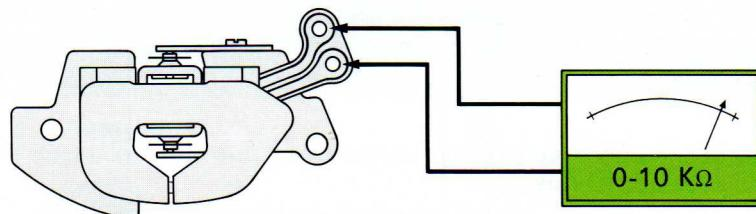

Fig. 14
9.11. Measure the resistance of the coil which must range between 1200-1500  $\Omega$  (Fig. 14).